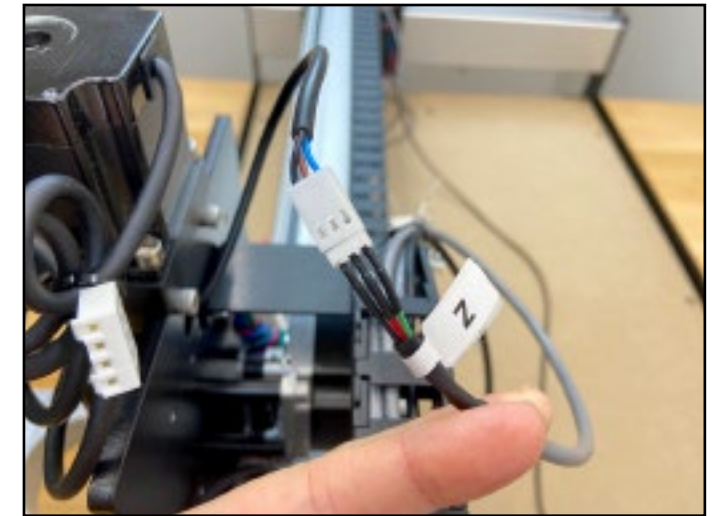

Figure 8-8
2. Align and connect the two cables. See **Figure 8-8**.